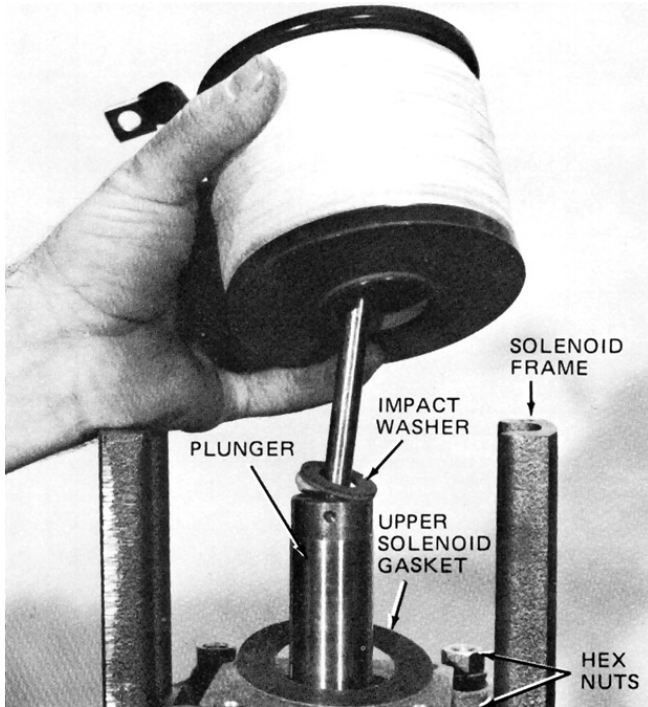

Figure 14. Removing solenoid coil
3. Remove the bridge plate, plunger stop, and lower solenoid gasket shown in Figure 14.